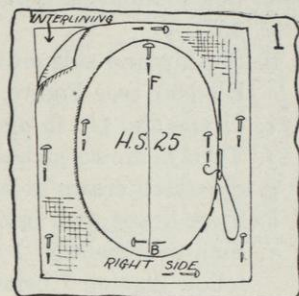

FIG. 1.
- a. Either measure around the outside of headsize of the brim for which the crown is to be made (see Figure 2 of Job 40, page 158) or measure the headsize of the person for whom the crown is to be made (see Figure 1 of Job 1, page 3).
- (1) Note how they are stitched and where.
- (2) Note whether draped or not.
- (3) Note whether interlined or not.
- (4) Note if a foundation crown is used.
- e. Decide whether to use interlining or not. If this crown is not set over a steamed crinoline foundation, it is usually made on an interlining of cotton crepe or mull as shown in Figure 1 A of Job 44 (page 177). Sometimes it is interlined for softness and is also set on the foundation to hold the drape as desired, as it might be in the case of a draped crown for a mature woman's hat, such as is shown in Figure 1 B of Job 44 (page 177).
- d.* Pin the pattern on the right side of the outer material, so that the front to the back crease of the pattern lies on the straight of the goods (see Figure 1).
- e.* Baste just outside of the edge of the pattern through both materials (see Figure 1). Be sure materials are flat and smooth.
There are millinery seasons when no shirred crowns are used; then there are other seasons when a great many are used. No milliner could consider herself expert, if she did not know how to shirr a variety of crowns. The variations in the methods of making the shirred crowns, shown in Figure 1, are so slight that they will all be given in this one lesson. Be careful to select the sections which will tell you just how to make the crown that you desire to copy.
Materials Needed for Crown like Figure 1 A.